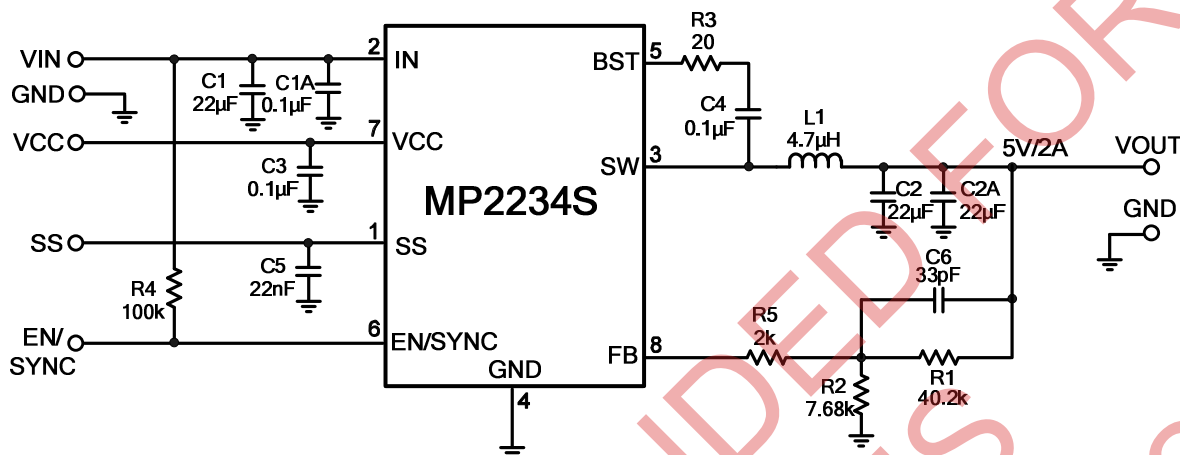

Figure 10. 12VIN, 5V/2A Output
- 9) The recommended layout is based on the Figure 10 Typical Application circuit on page 17.